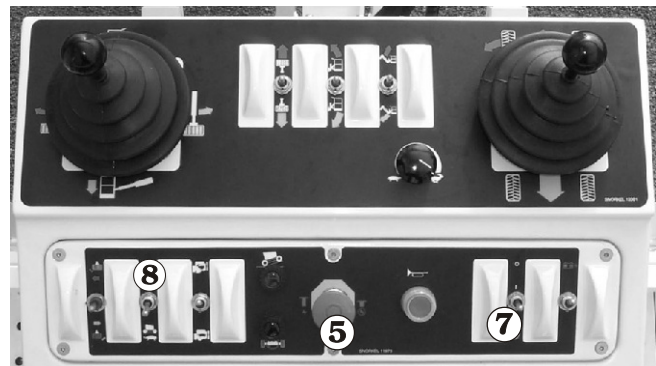

Figure 7.3—Platform Controls (Electric Controls)
5. Pull the emergency stop button⁵ out (refer to Figure 7.3 and 7.4).
2. Press the range switch ⁸ (see Figure 7.3 and 7.4) to change the drive system from low speed, high torque operation to high speed, low torque operation.